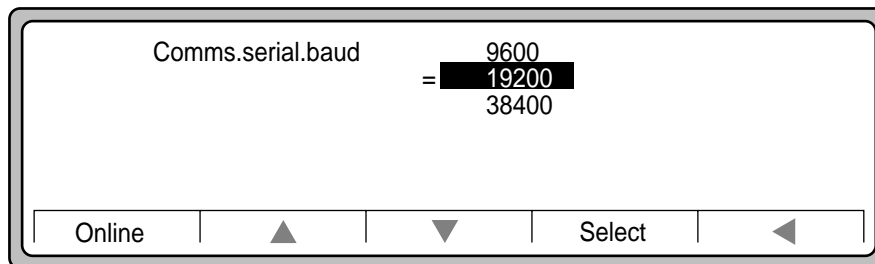

Figure 3-11 Baud Rates
2. Select the baud rate. See Figure 3-11.